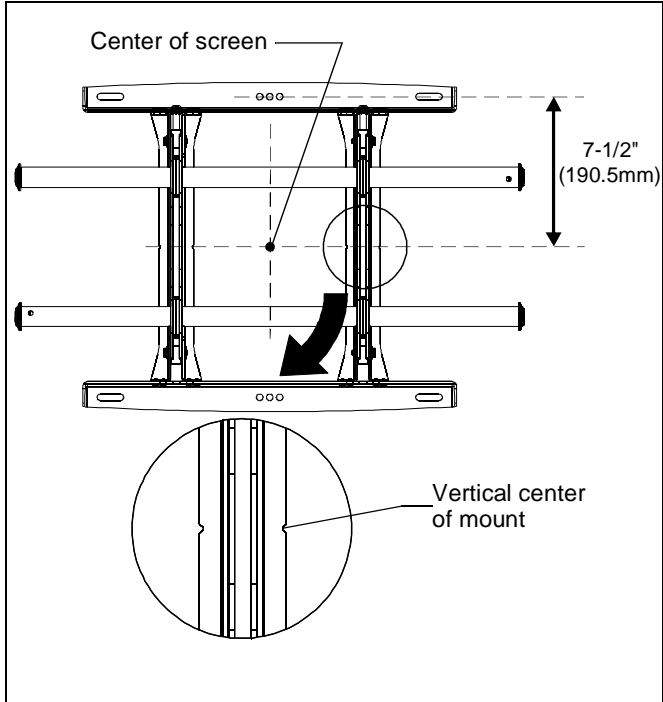

Figure 5
- Line up the notches on mount (R) with center of screen marking to determine vertical center. (See Figure 5)